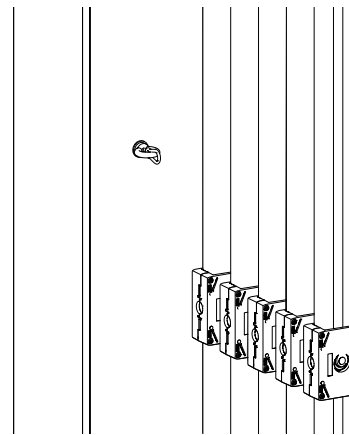

Fig. 40: The housing halves of the fall arrest device are mounted on all poles.
- Mount the housing halves on all other conductor rail poles (see Fig. 40).